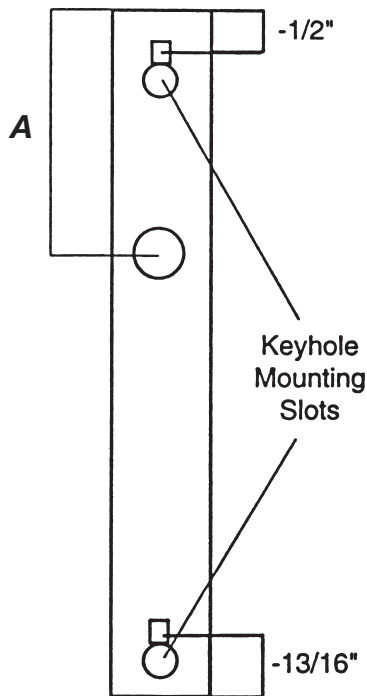

Fig. 1
- Mount fixtures only to surfaces that are mechanically sound. Use only the keyhole slots provided on the back of the fixture (Fig. 1). Do not use adhesives of any kind.
1. Mark location of screws for keyhole slots (Fig. 1). Minimum screw size for mounting – #8 x 1-1/4".